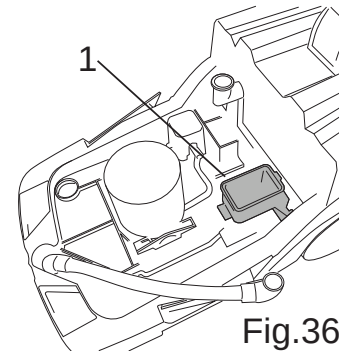

Fig.36
- Clean the chamber of the valve (fig. 36, ref. 1), removing any encrustations, and rinse with clean water; wipe the seals of the cover with a soft cloth.